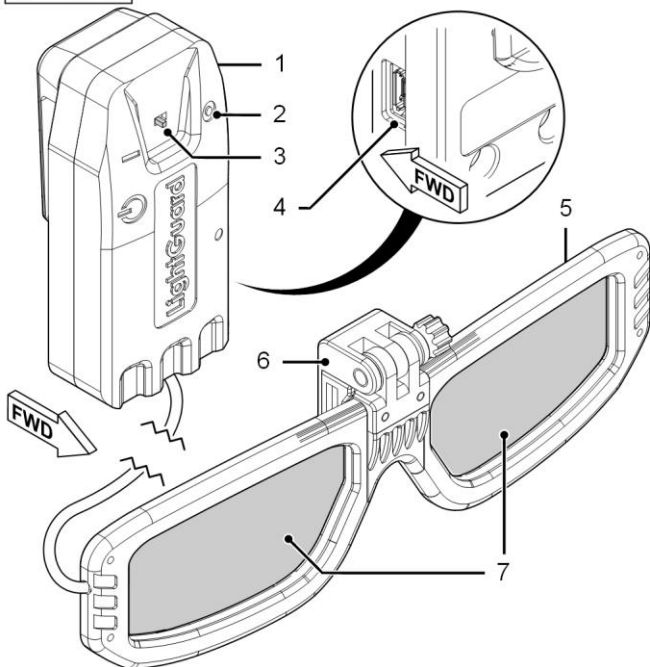

Figure 3-4: LPG - Physical Description
(see Figure 3-4, 3).
- Indication LED (see Figure 3-4, 2) is lit red and green.
- After sync with DLU is complete, green LED is lit (see Figure 3-4, 2).
- Indication LED is off (see Figure 3-4, 2).